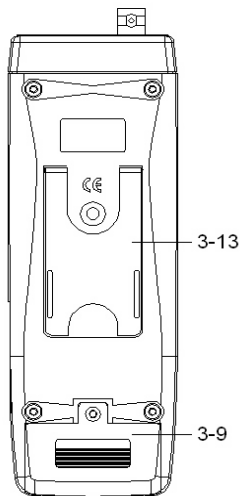

Fig. 3
- 6) \* For measuring the PH7 standard solution, adjust the PH 7 VR ( 3-14, Fig. 3 ) until the display value within PH6 to PH8.
- \* For measuring the PH4 standard solution, adjust the PH 4 VR ( 3-15, Fig. 3 ) until the display value within PH3 to PH5.
- \* For measuring the PH10 standard solution, adjust the PH 10 VR ( 3-15, Fig. 3 ) until the display value within PH9 to PH11.